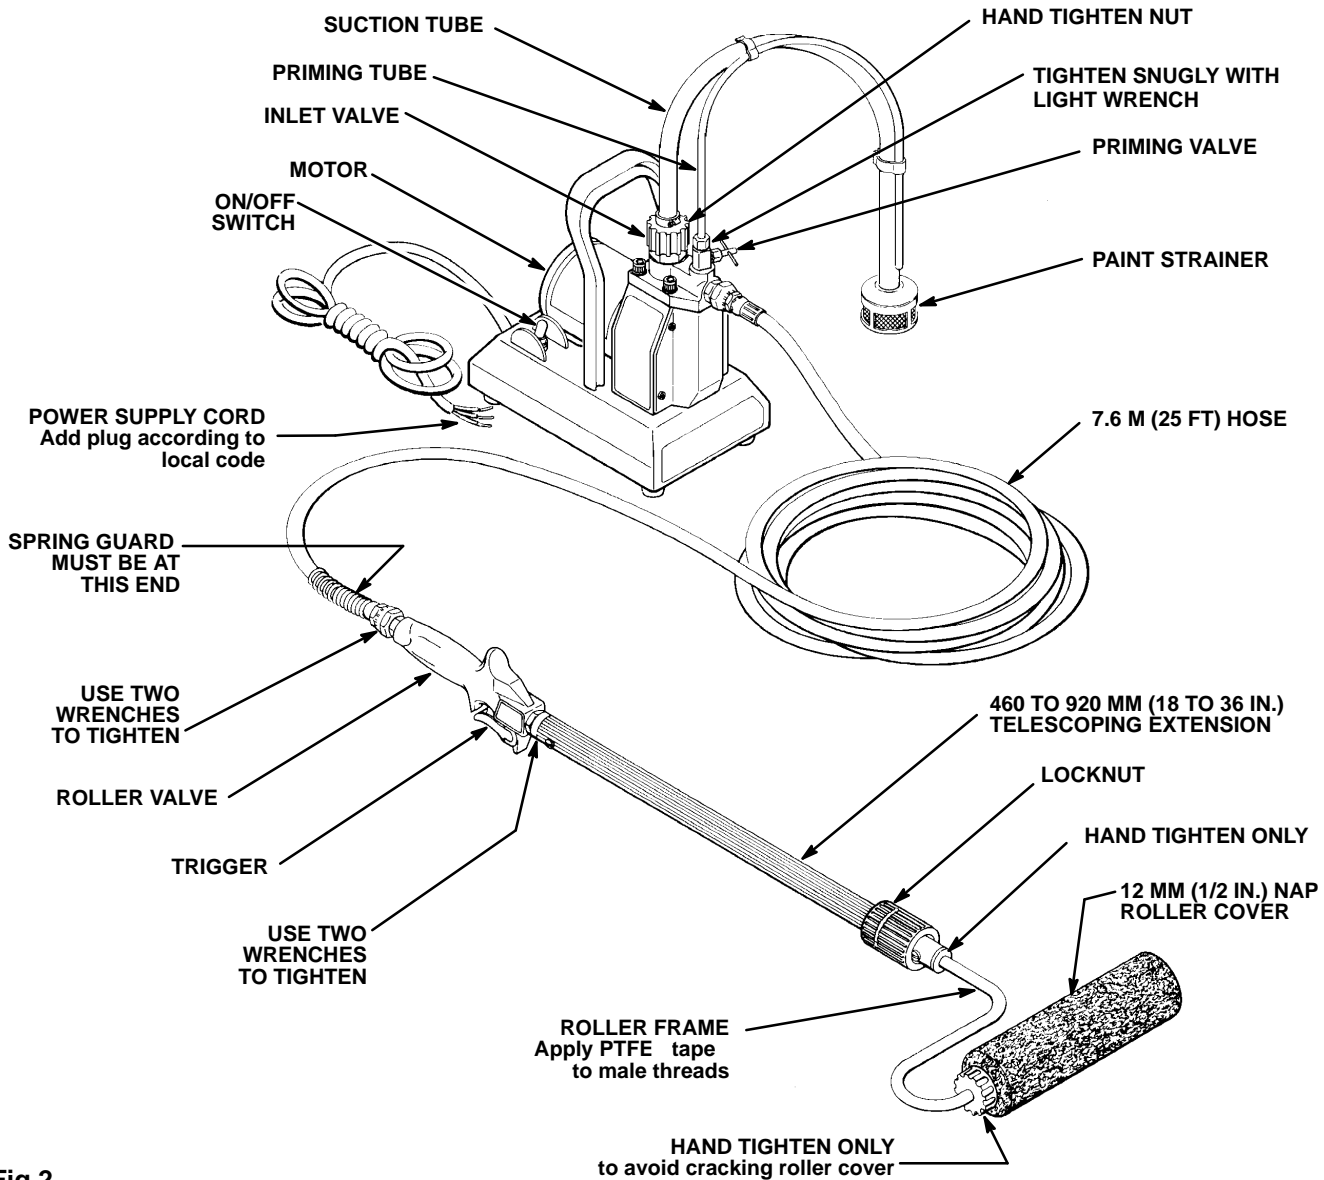

Fig 2
1. Assemble the system as shown in Fig 2, following the notes on the drawing.